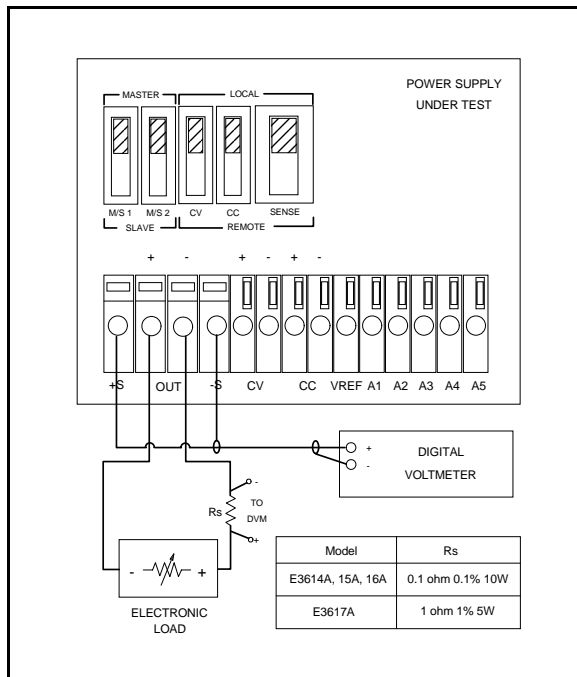

Figure A-4. Basic Test Setup
- Connect the test equipment as shown in Figure A-4. Operate the electronic load in constant current mode and set its current to the full rated value of the power supply (6 A for E3614A, 3 A for E3615A, 1.7 A for E3616A and 1 A for E3617A).
- Connect the test equipment as shown in Figure A-4. Operate the electronic load in constant current mode and set its current to the full rated value of the power supply.
- Connect the test equipment as shown in Figure A-4, but replace the DVM with the oscilloscope. Operate the electronic load in constant current mode.
- Connect the DVM across  $R_s$  in Figure A-4.
- Connect the DVM across  $R_s$  in Figure A-4. Operate the electronic load in constant voltage mode and set its voltage to the full rated value of power supply.